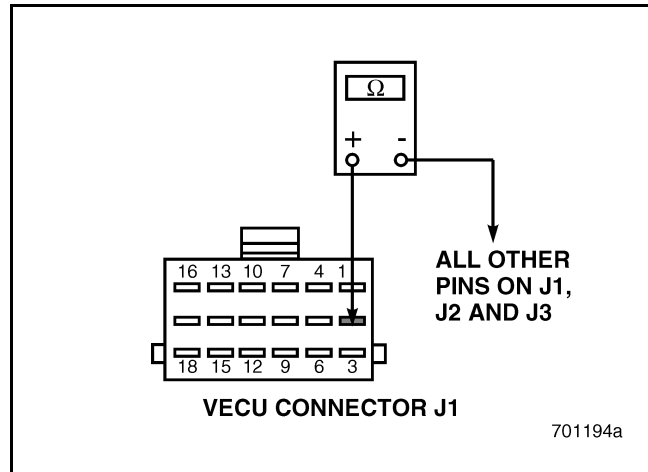

Figure 96
5. Check for continuity between VECU connector J1 pin 2 and all other pins on VECU connectors J1, J2 and J3 (see Figure 96).